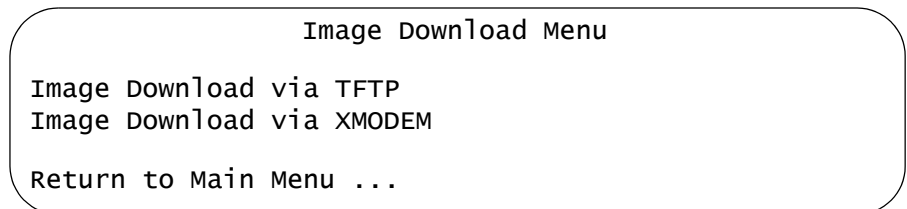

Figure 139. Image Download Menu
1. From the Main Menu, select **Image Download** to display the menu in Figure 139.
1. From the Main Menu, select **Image Download** to display the menu in Figure 139 on page 321.